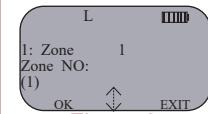

Figure 2
- Press the UP/Down keypad keys to desired zone and press the "OK" softkey. **(See Figure 2)**